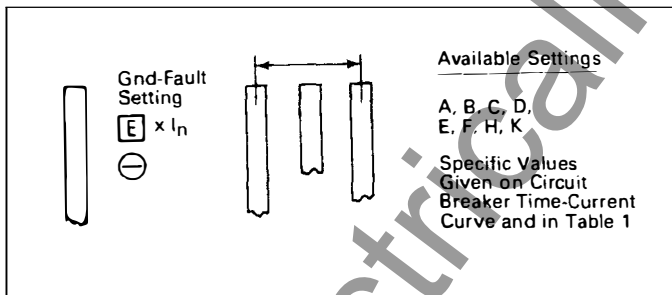

Fig. 4.6 Ground Fault Current Settings
The eight (8) Ground Fault Current Settings are labeled with the code letters "A" through "K" (except there are no "G" or "I" settings), as illustrated in Fig. 4.6. In general, the specific current settings range from 0.25 to 1.0 times (I_n), the rating plug value, but cannot exceed 1200 A. The specific Ground Current Settings for each letter are listed in Table 1 and on the applicable Time-Current curve for the breaker.